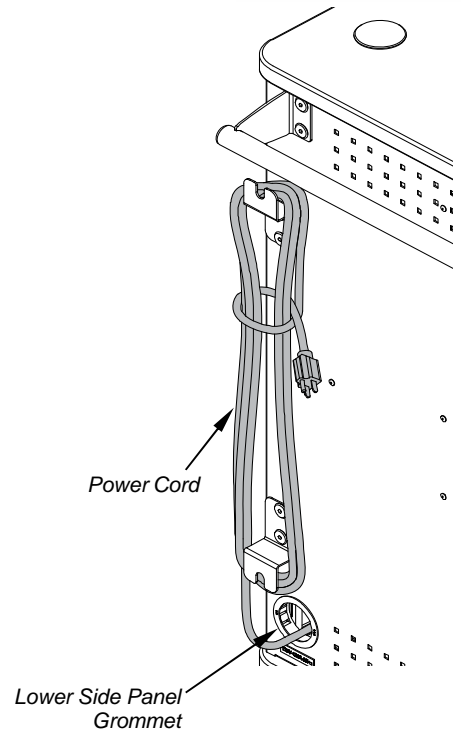

Figure 1B
- C. Power cords can be routed through the lower side panel grommet as shown in **Figure 1B.**